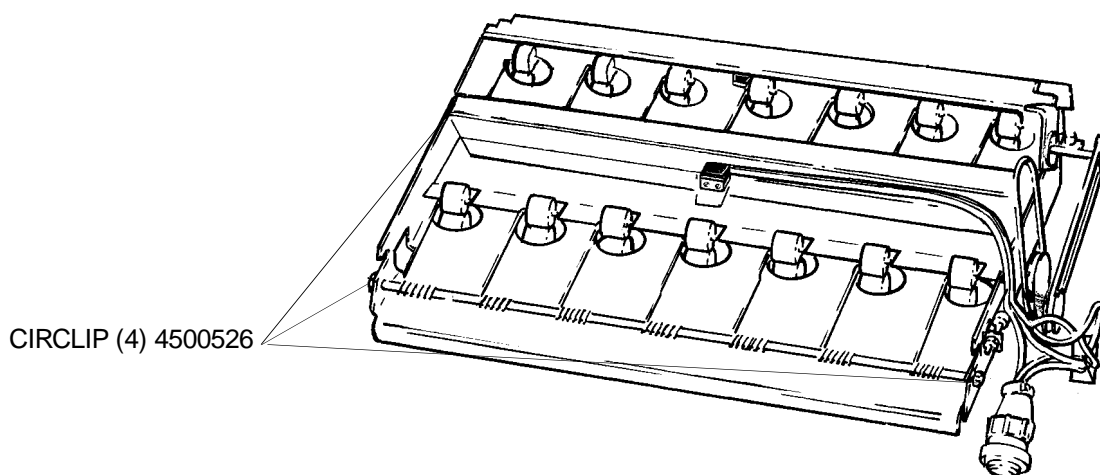

figure 16
26. Install SHAFTS WITH ROLLERS using new HARDWARE. See figure 16.